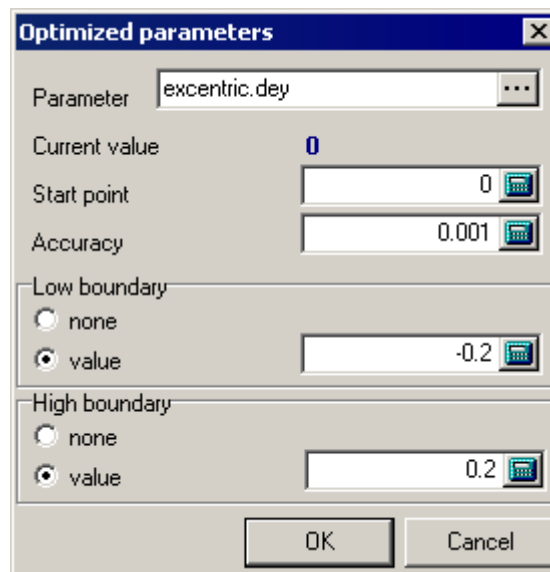

Figure 5.6. Adding new parameter
1. Click the left mouse button on the **dey** parameter in the list of parameters. New dialog window appears, see Fig. 5.6.